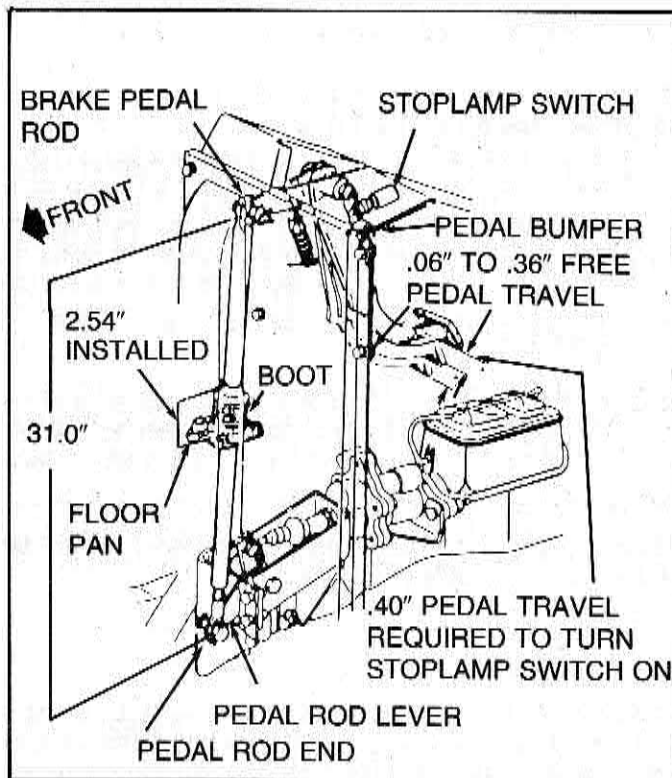

Figure 6-8 — Actuating Rod/Brake Pedal/Stoplight Adjustment
NOTE: Proper adjustment of the stoplight switch allows .06 inch to .36 inch free pedal travel and will turn on the stoplight switch after approximately .40 inch travel. (See Figure 6-8.)
3. Check the 31-inch rod that runs down the front of the chassis and connects the brake pedal to the Hydro-Boost for proper adjustment. (See Figure 6-8.) The rod can be adjusted (longer or shorter) using the screw adjustment located at the bottom of the rod. Block the wheels and hold the inside pedal in the "full-up" position. Check that there is free entry of the special bolt through the relaxed pedal rod lever connecting the linkage into the Hydro-Boost. Turn the adjustment screw to lengthen or shorten the rod as necessary.